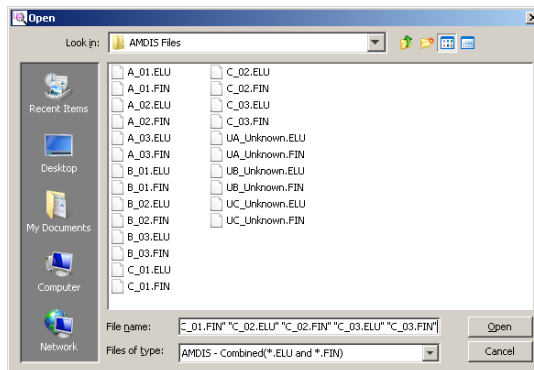

Figure 28 Data file selection dialog box
- 1 Click **Select Data Files** to display the file selection dialog box (Figure 28).